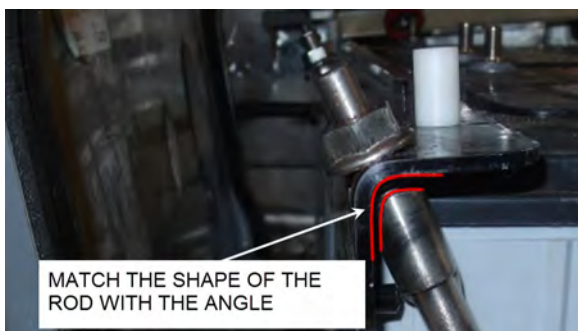

FIGURE 40: SHAPE OF THE ROD
3. The upper end of the rods is shaped to match with the angle (**Figure 40**).